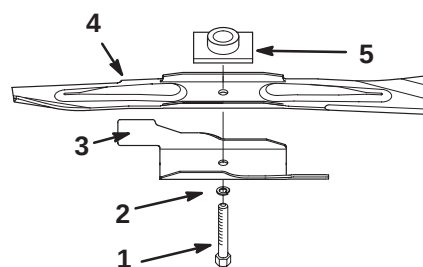

Figure 24
2. Remove the blade bolt, the lock washer, the accelerator, and the blade (Fig. 24).
1. Install a sharp, balanced Toro blade, an accelerator, a lock washer, and the blade bolt (Fig. 24).